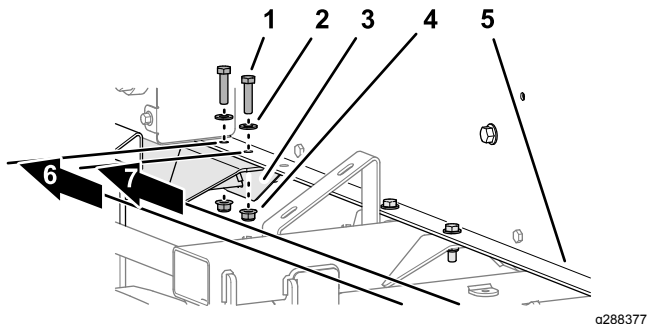

Figure 13
- 1. Measure 146.5 cm (57-11/16 inches) and 151.6 cm (59-11/16 inches) from the rinse guard to the holes in the rail (Figure 13).
- 2. Assemble rail to the slotted bracket of the rear cross member (Figure 10 and Figure 13) with 2 capscrews (5/16 x 1-1/4 inches), 2 washers (5/16 inch), and flange locknut (5/16 inch).